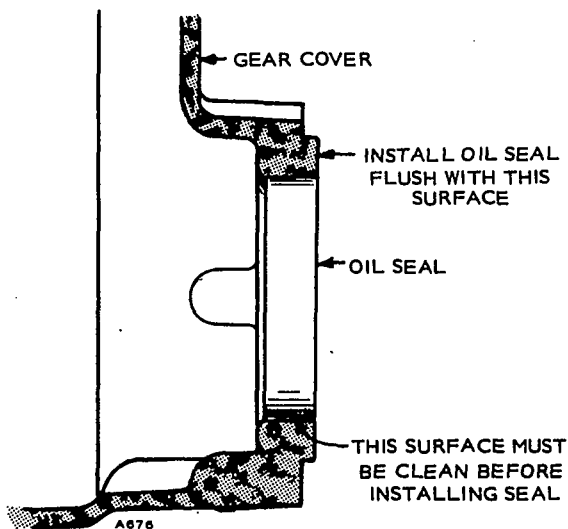

FIGURE 56. GEAR COVER OIL SEAL
**Gear Cover Oil Seal:** Replace the oil seal if damaged or worn. Drive the oil seal out from inside the gear cover. Lay the cover on a board so the seal boss is supported. Using an oil seal driver, insert the new seal from the inside with rubber lip toward outside of gear cover (open side of seal inward) and drive it flush with the outside surface. During gear cover installation, use the driver to protect the oil seal. See Figure 56.